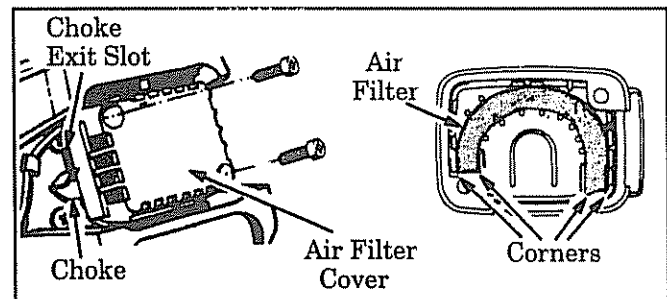

Figure 22
- a. Loosen the two screws on the air filter cover enough to remove the cover from the engine. Figure 22.
- b. Remove air filter from the cover. Figure 22.
- a. Reinstall the air filter cover, making sure the choke exit slot (Figure 22) is placed over the choke lever.